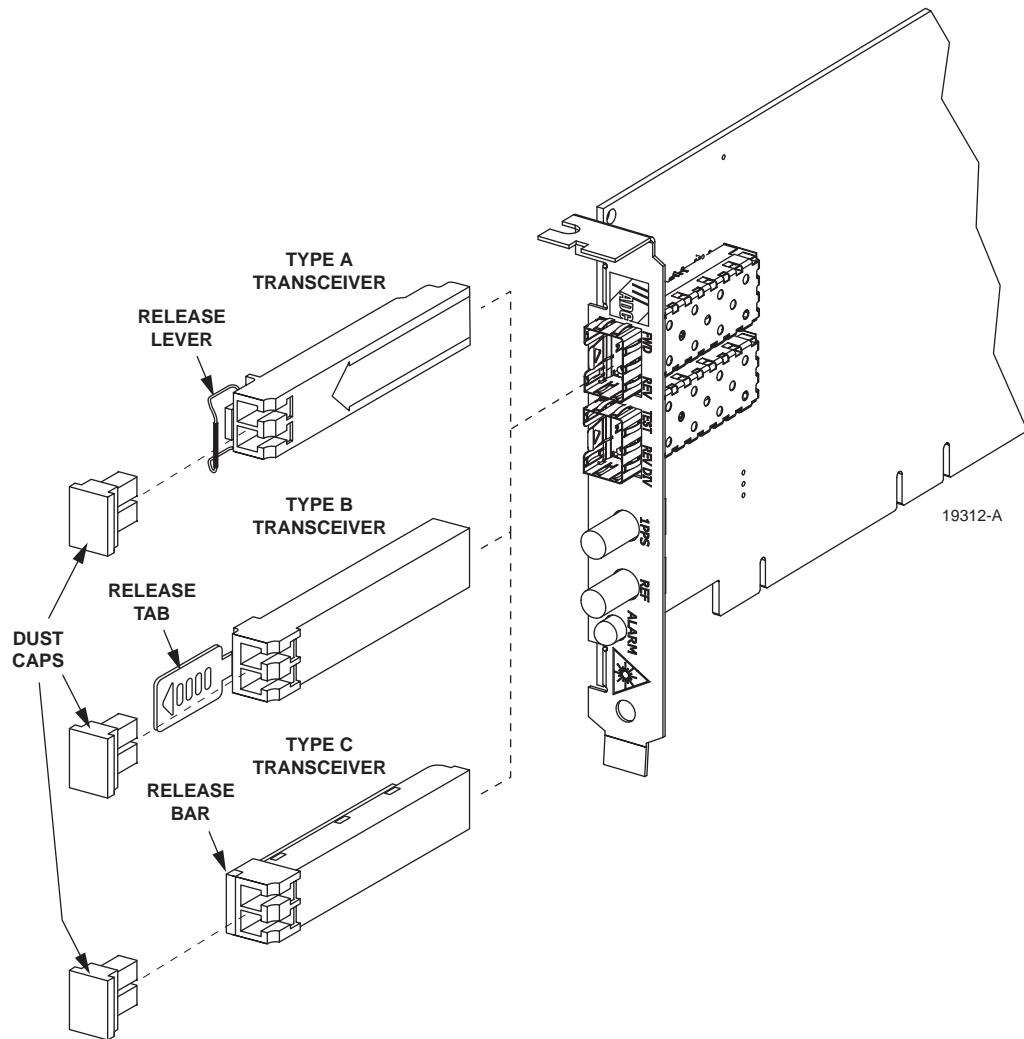

Figure 5. Optical Transceiver Installation
2. Locate the appropriate transceiver socket on the front of the SDR card as shown in Figure 5 and remove the cover from the socket.
► **Note:** A variety of optical transceivers are available, all provide the same functionality. On the type A optical transceiver, the release lever (see Figure 5) must be closed for installation.
3. Select optical transceivers shown in Figure 5.
4. Remove transceiver from anti-static packaging and orient for installation. See Figure 5.